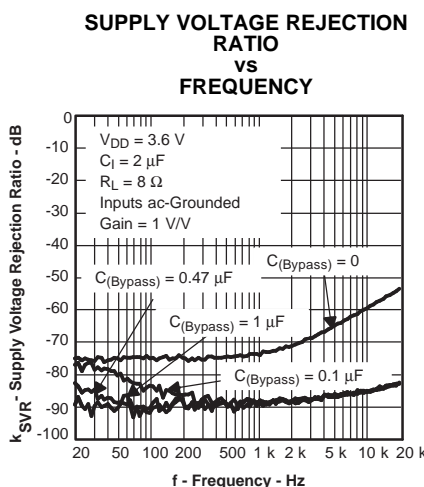

Figure 17.
- Mid-supply bypass capacitor, $C_{(BYPASS)}$, not required: The fully differential amplifier does not require a bypass capacitor. This is because any shift in the mid-supply affects both positive and negative channels equally and cancels at the differential output. However, removing the bypass capacitor slightly worsens power supply rejection ratio (k_{SVR}), but a slight decrease of k_{SVR} may be acceptable when an additional component can be eliminated (see Figure 17).